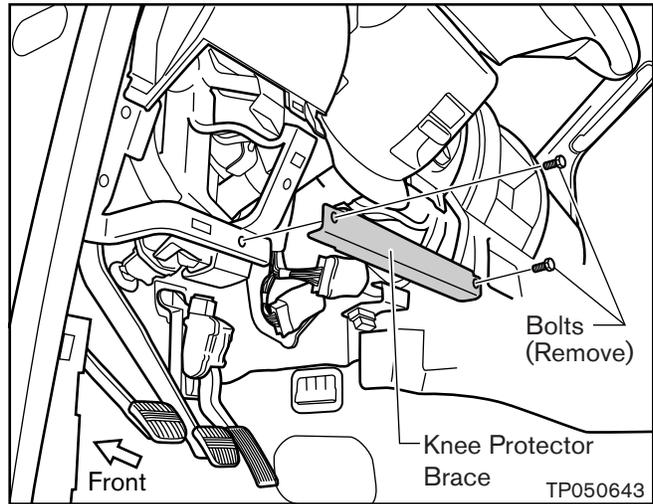

Figure 14
7. Remove two Bolts and remove the Knee Protector Brace (see Figure 14).